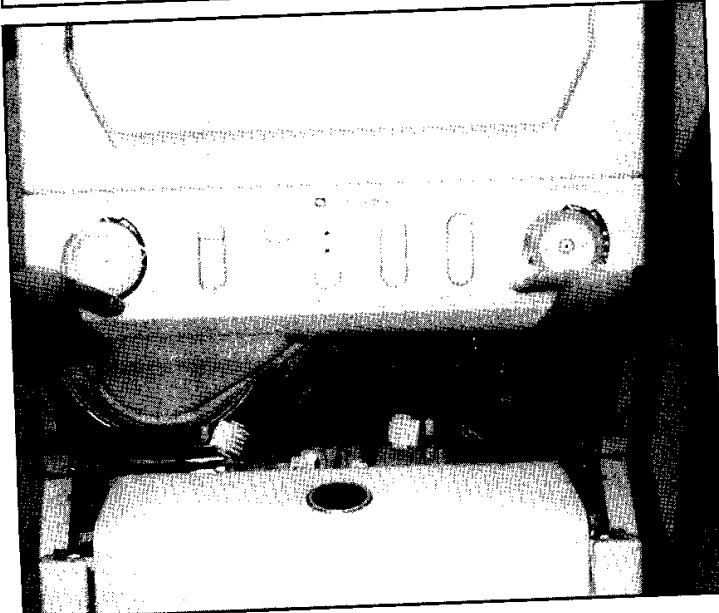
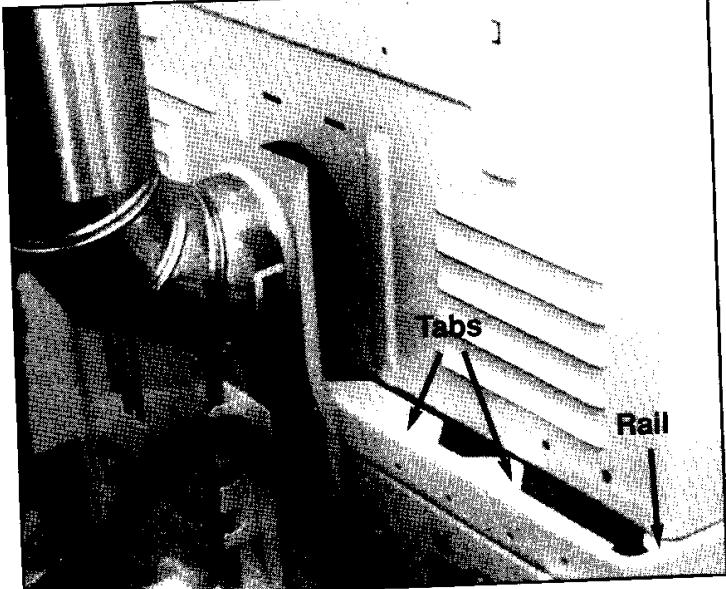

Figure 34
Figure 35
- 14.** Two people, one on each side, grasp and lift the dryer onto the washer (see figure 34), taking care not to bend the tabs located towards the front of the washer. Slide the upper dryer toward the rear making sure that the guides fall between the rails on the support of the washer. (See figure 35.)